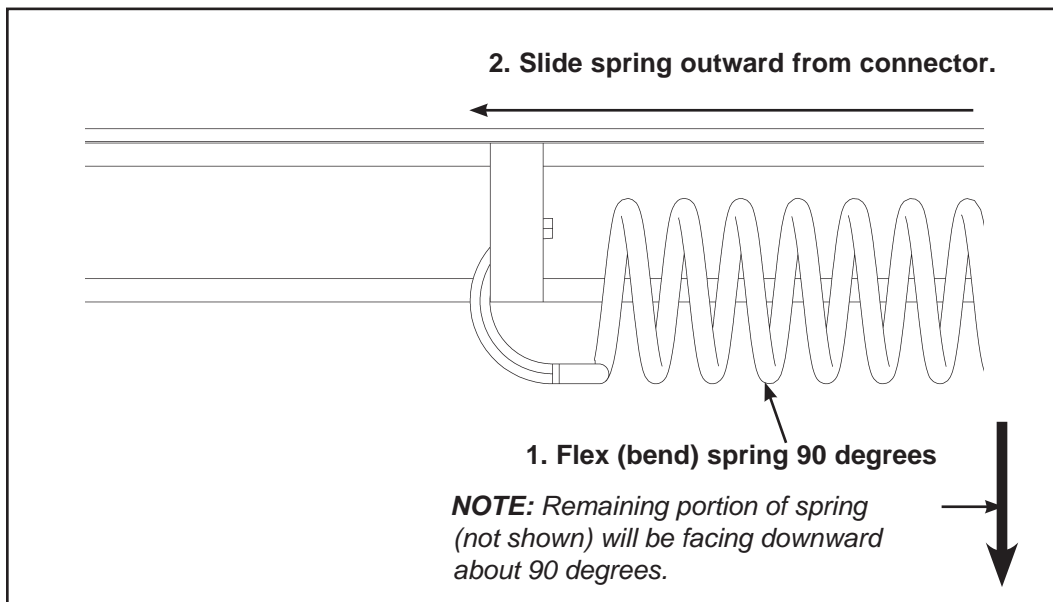

Figure 3
B. Flex (bend) upper part of spring approximately 90 degrees. See Figure 3.
C. Slide hook outward and remove from connector. See Figure 3.